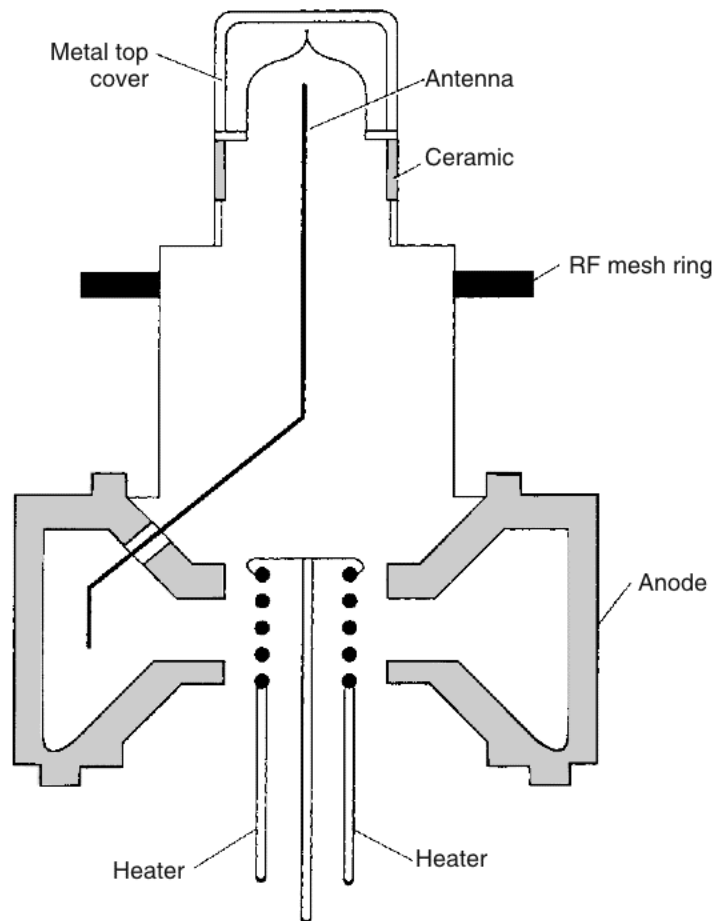

FIGURE 2-27 Do not place metal tools near the glass antenna envelope and magnet, to prevent breaking the glass antenna assembly.
Check the magnetron level and secure bolts to eliminate hot spots or radio frequency (RF) arcing. Always replace the RF gasket around the magnetron tube antenna when replacing the magnetron. Do not use metal tools near the magnetron because it can jerk them out of your hands, sometimes breaking off the glass-enclosed antenna assembly (Fig. 2-27).